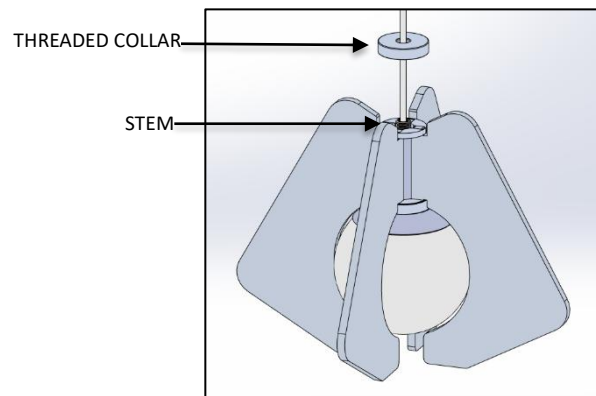

FIG. 26 – ACOUSTIC FIN
17. With all ACOUSTIC FINS slotted into the lower ACOUSTIC HOLDER, insert the ACOUSTIC FIN tabs into the upper ACOUSTIC HOLDER as shown in FIG. 26. Ensure all fins are properly slotted into place and then screw on THREADED COLLAR onto STEM.